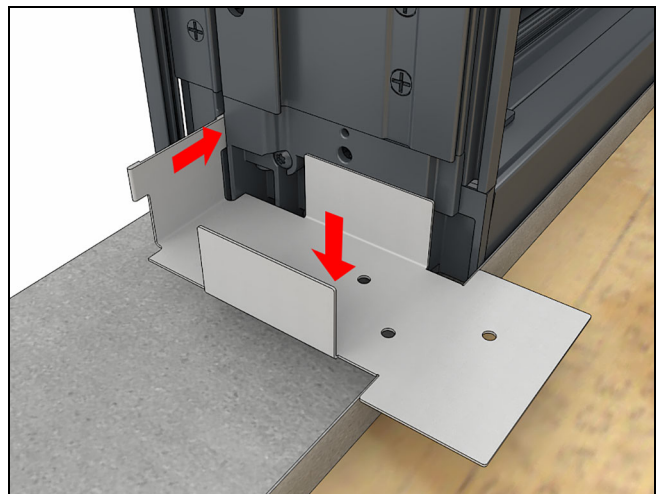

Figure 217
4. After the first frame (starting left to right as seen from the exterior) is secured in the opening, place the tube steel fixture on the sill, oriented so the turned up hemmed leg on the fixture fits into the frame kerf. Make sure the fixture fits flush against the sill corner key as shown. Mark the position of the sill bracket holes as shown in Figure 217.